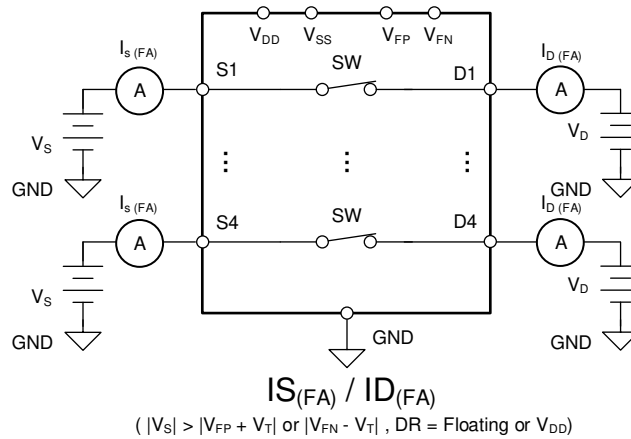
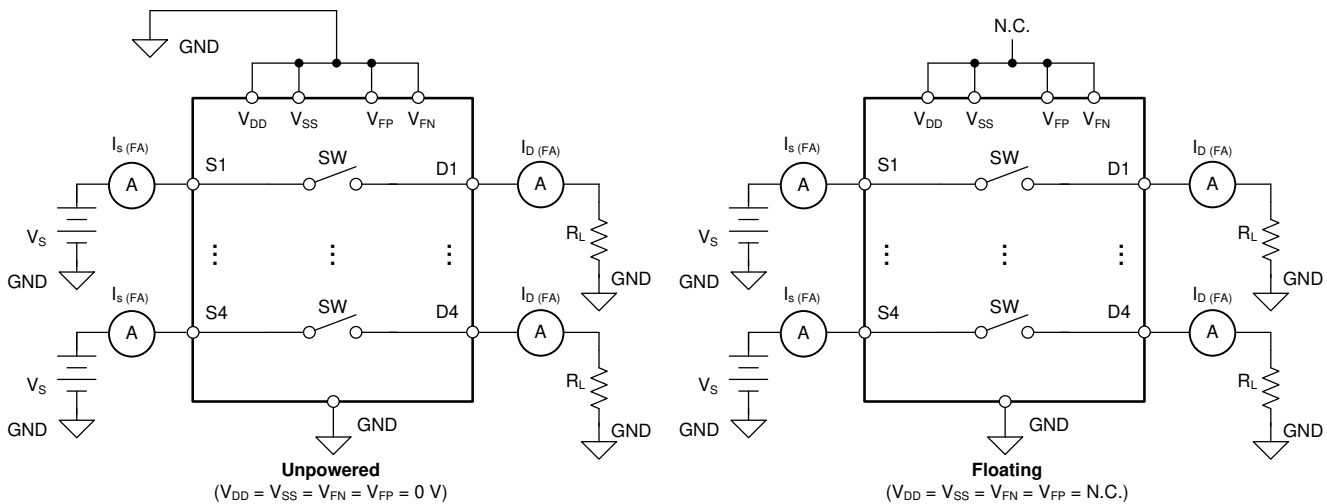

图 7-3. Measurement Setup for Input and Output Leakage Current Under Overvoltage Fault with Normal Supplies
图 7-4. Measurement Setup for Input and Output Leakage Current Under Overvoltage Fault with Unpowered or Floating Supplies
If any of the source pin voltage goes above the fault supplies (V_{FP} or V_{FN}) by one threshold voltage (V_T), the TMUX7462F's overvoltage protection feature is triggered to turn off the switch under fault, keeping the fault channel in the high-impedance state. $I_{S(FA)}$ and $I_{D(FA)}$ denotes the input and output leakage current under overvoltage fault conditions, respectively. The supply (or supplies) can either be in normal operating condition (图 7-3) or abnormal operating condition (图 7-4) when the overvoltage fault occurs. The supply (or supplies) can either be unpowered ($V_{DD} = V_{SS} = V_{FN} = V_{FP} = 0\text{ V}$), floating ($V_{DD} = V_{SS} = V_{FN} = V_{FP} = \text{No Connection}$), or at any level that is below the undervoltage (UV) threshold during abnormal operating conditions.